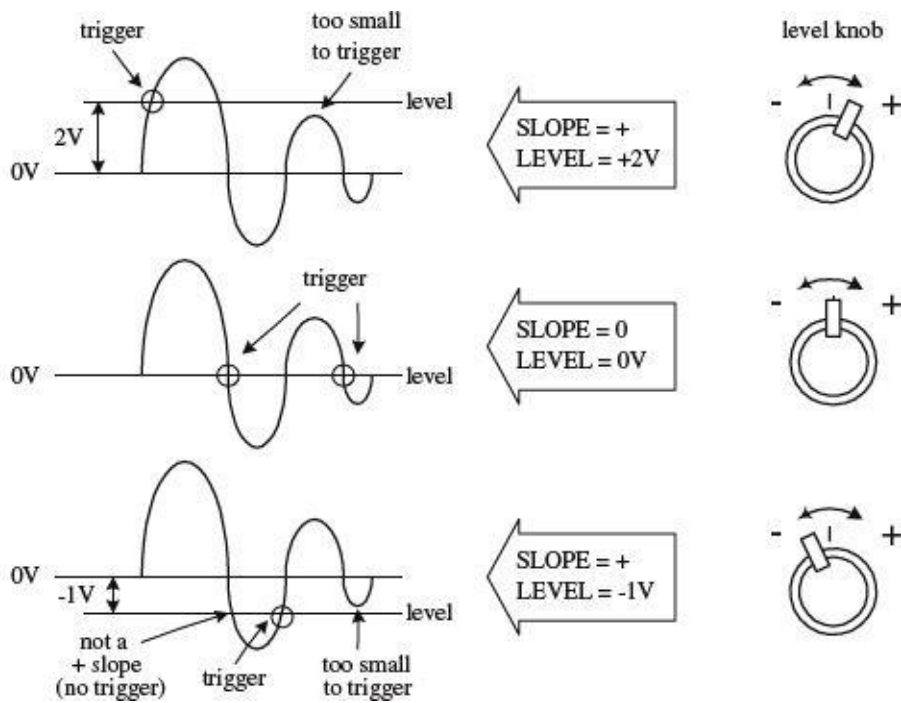

FIGURE 7.35
- *NORM*: Used for triggered sweep operation. The triggering threshold is adjustable by means of the triggering LEVEL control. No sweep is generated in the absence of the triggering signal or if the LEVEL control is set in such a way as to allow the threshold to exceed the amplitude of the triggering signal (see Fig. 7.35).
LEVEL knob: Used to trigger a sweep. LEVEL sets the point when the scope will trigger based on the amplitude of the applied signal. The level can be shifted up or down. The READY/TRIGGER indicator turns on when the sweep is triggered, indicating that the triggering LEVEL control is within the proper range (see Fig. 7.35).